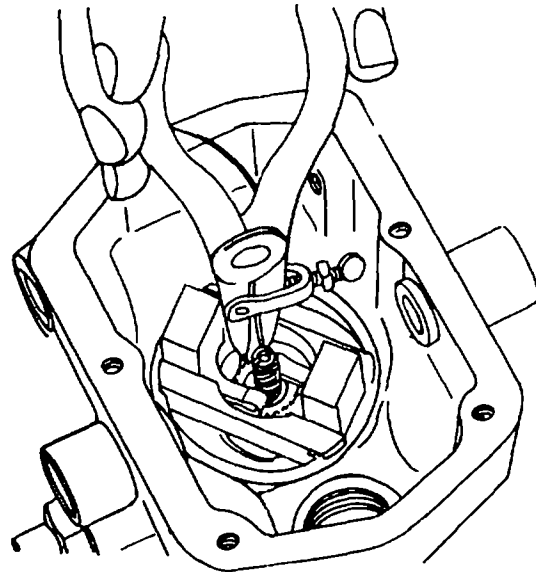

Figure 11-8. Removal of Governor
(21) Remove snap ring (62) and lift out ballhead parts (63 through 70). Refer to figure 11-8.